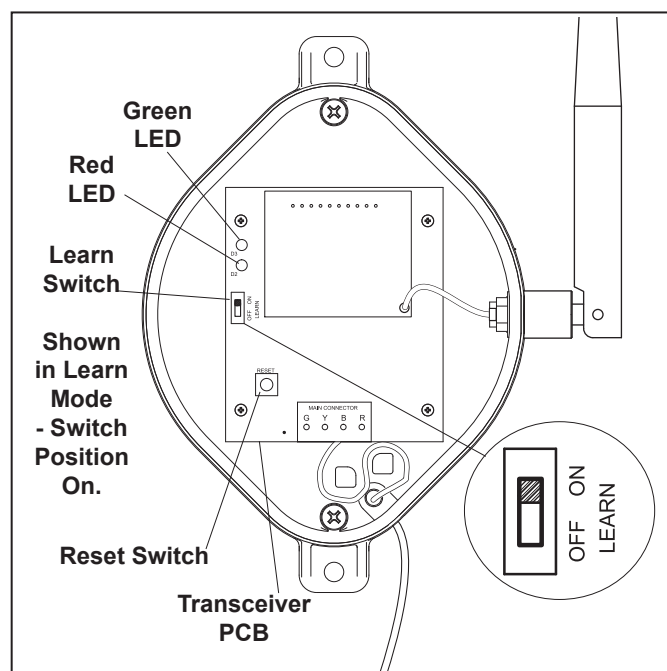

Figure 24. Transceiver J-box PCB Learn Switch
5. At the PCB in the Transceiver J-box, slide the Learn Switch to LEARN (ON). See Figure 24.
7. At the PCB in the Transceiver J-box, slide the Learn Switch out of LEARN and press the Reset Switch. The Red and Green LEDs on the J-box will blink simultaneously (see Figure 24).